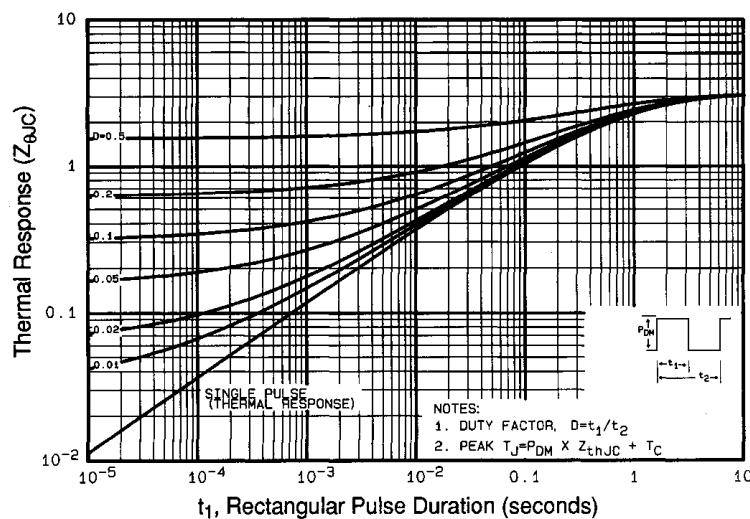

Fig 11. Maximum Effective Transient Thermal Impedance, Junction-to-Case
- ① Repetitive rating; pulse width limited by max. junction temperature (See Figure 11) ③ $I_{SD}\le-19\text{A}$, $di/dt\le170\text{A}/\mu\text{s}$, $V_{DD}\le V_{(BR)DSS}$, $T_J\le175^\circ\text{C}$ ⑤ $t=60\text{s}$, $f=60\text{Hz}$
- ② $V_{DD}=-25\text{V}$, starting $T_J=25^\circ\text{C}$, $L=7.4\text{mH}$ ④ Pulse width $\le 300 \mu\text{s}$; duty cycle $\le 2\%$.